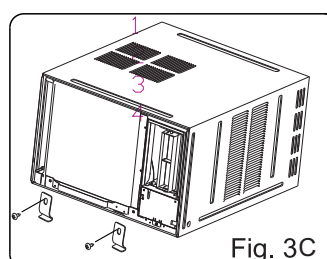

Fig. 3C
- Remove the two screw on the left and right chassis fixing brackets, then remove the two chassis fixing brackets as shown in Fig.3C.